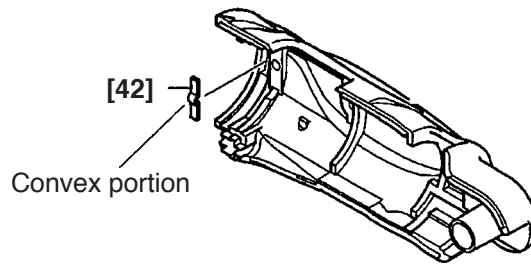

Fig. 11
(7) Reassembly of the housing unit
(a) Mount the Click Spring [42] to Housing (A). (B) Set [32] so that the convex portion of the Click Spring [42] can be seen. Apply grease (Hitachi Motor Grease No. 29) to the Click Spring [42]. (See Fig. 11.)